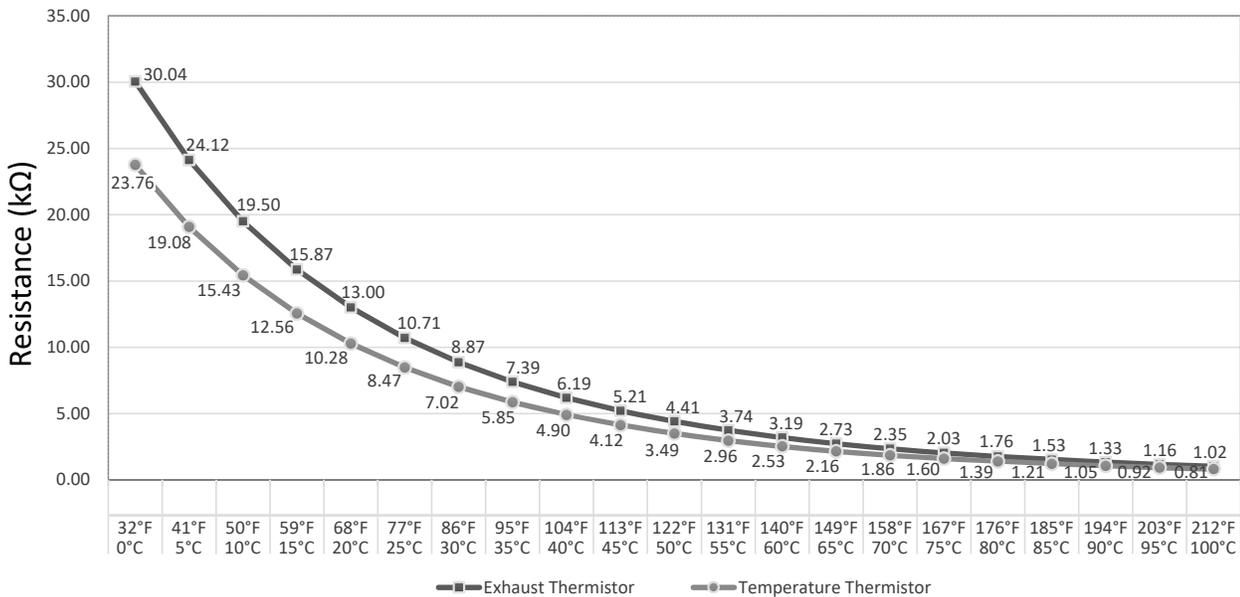

Figure 4: Temperature vs Resistance Graph
4. Check the thermistor’s resistance value. See Figure 4 for a list of normal resistance values. Run water through the heater for several minutes to get all the thermistors in approximately the same temperature range.